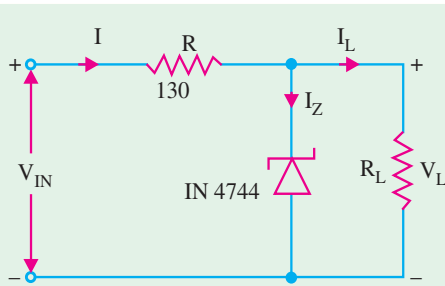

Fig. 56.30
- The Zener diode of Fig. 56.30 has the following ratings :